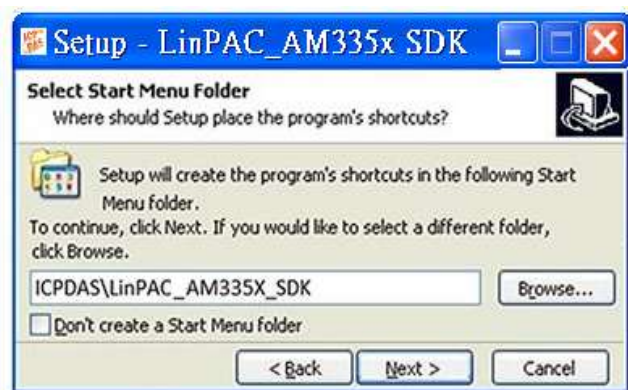

Figure 1.3.2-10.
- The LinPAC_AM335x SDK files will be extracted and installed and a progress bar will be displayed to indicate the status, refer to Figure 1.3.2-11.